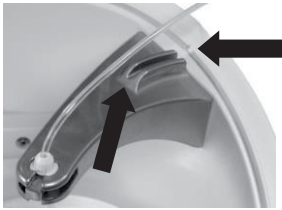

Figure 5. Place tubing through notch in centrifuge ridge.
- Press tubing down into groove on support arm and place tubing through notch in centrifuge ridge (see Figure 5).